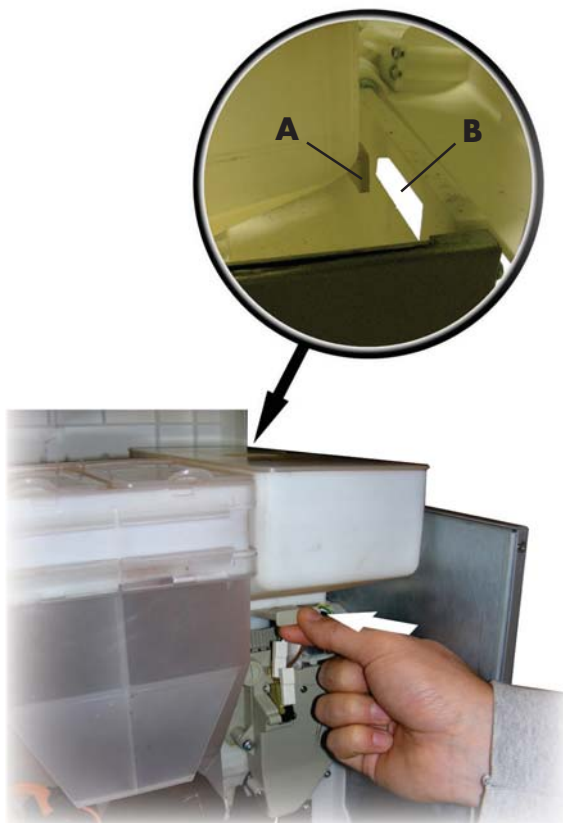

Fig. 55
- push the moving panel inward (Fig. 55);
When reassembling the coffee bean hopper, make sure you insert the hook (A) in its place (B) (Fig. 55).
After removing the coffee bean hopper (10.2.7 - Fig. 55), clean the coffee grinder carefully with an aspirator.